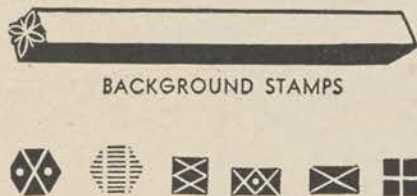

Figure 26.
a. Various geometrical patterns can be indented in leather by the use of background stamps (fig. 26).